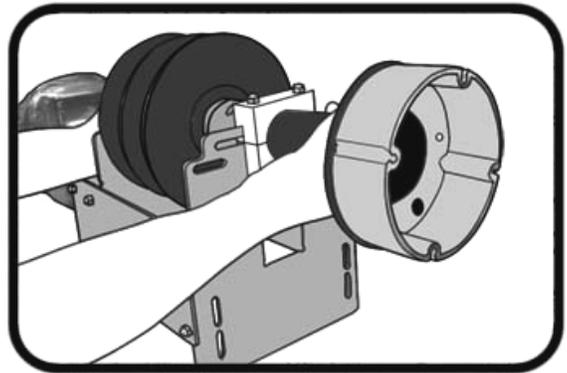

Fig. 5
**Step 4:** Lift the rope reel / end-casting assembly from the mechanism frame. **(Fig. 5)**